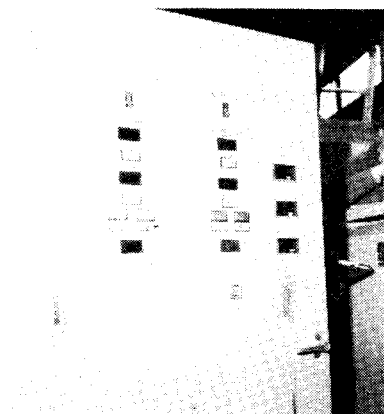

Figure 21
2. Proceed to the MARION PROGRAMMABLE SYSTEM CABINET and perform the following: See Figure 21.